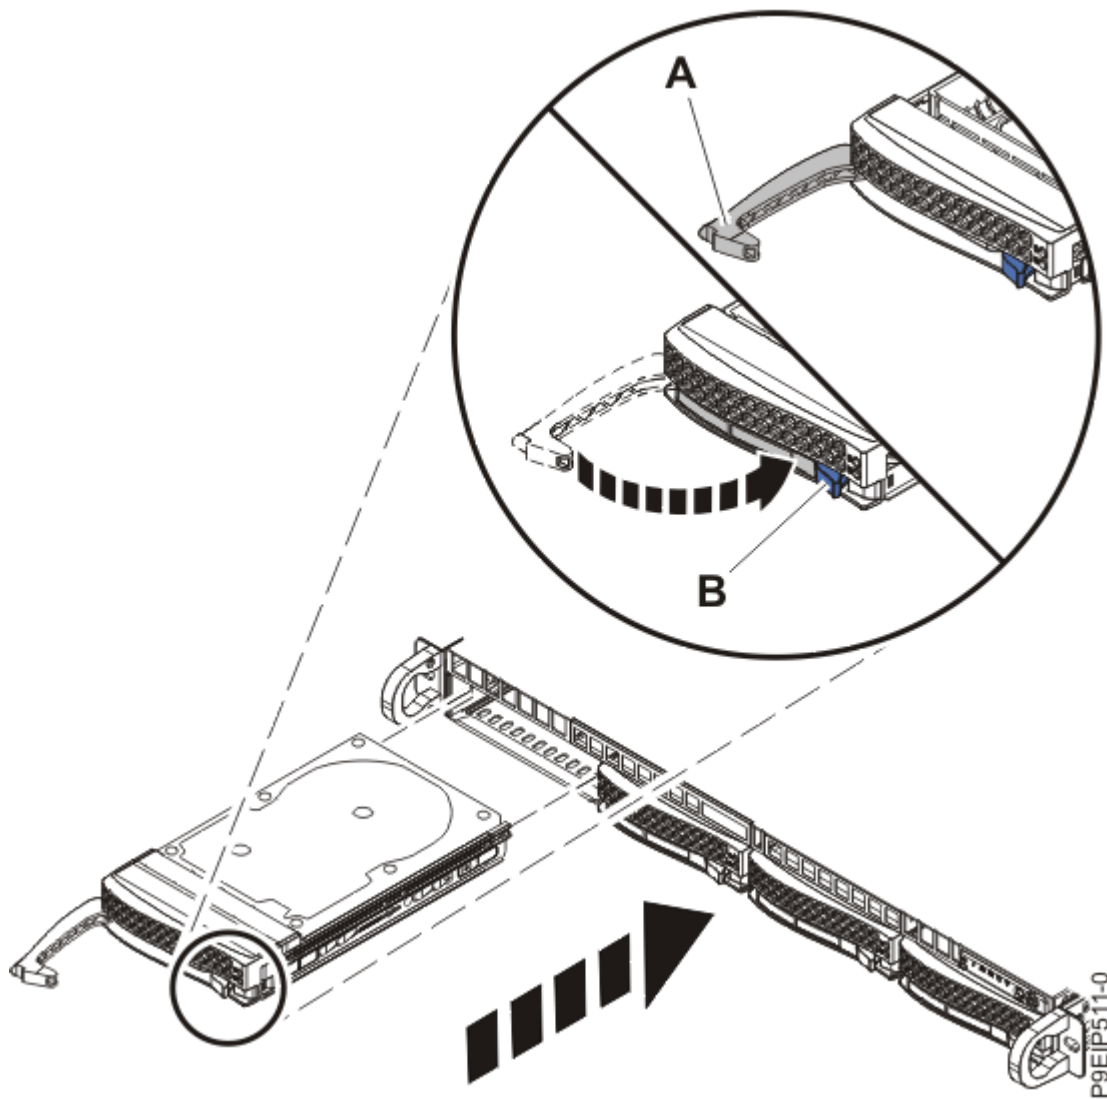

Figure 11. Disk drive lock detail
7. Lock the drive bay handle (**A**) by pushing in the handle release as shown in Figure 11 on page 16.